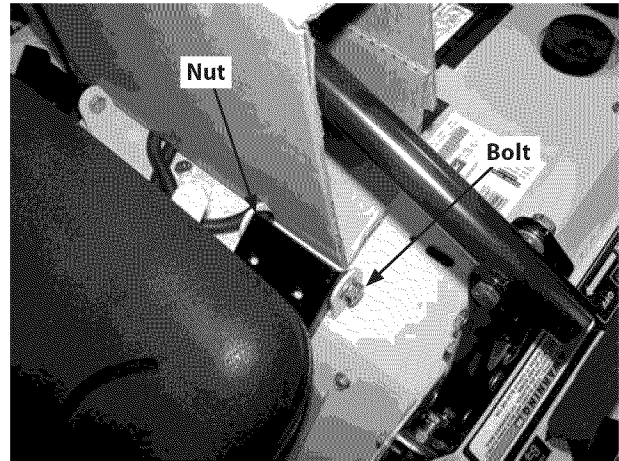

Figure 2
9. Remove the two shoulder bolts and lock nuts in the seat pan as shown in Figure 2.